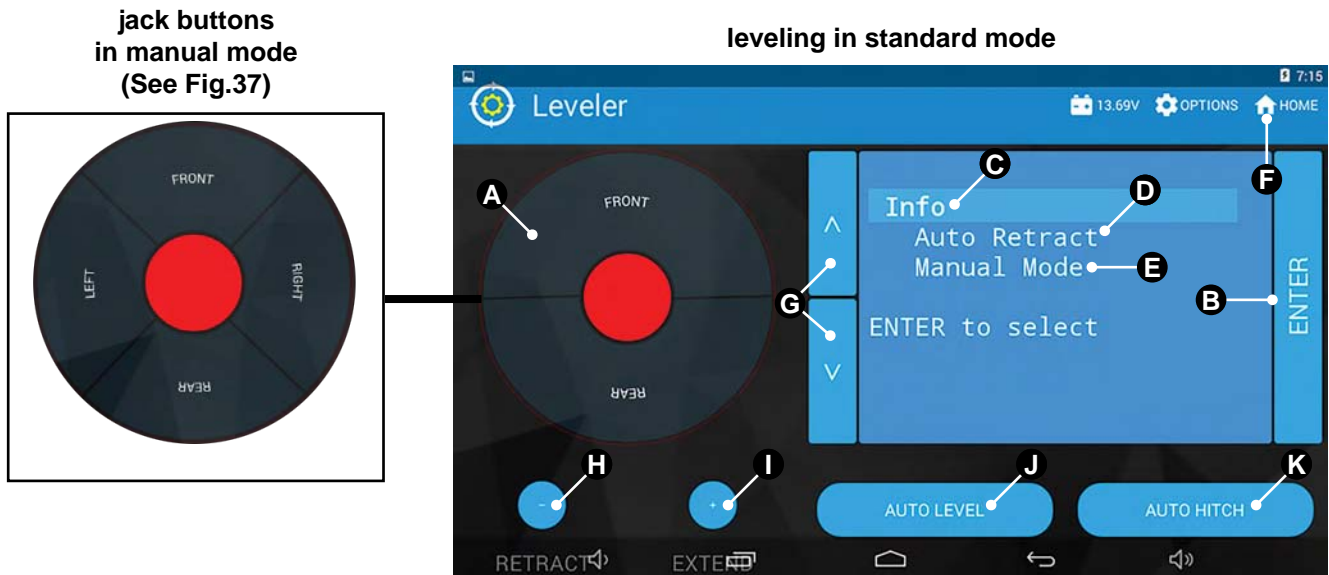
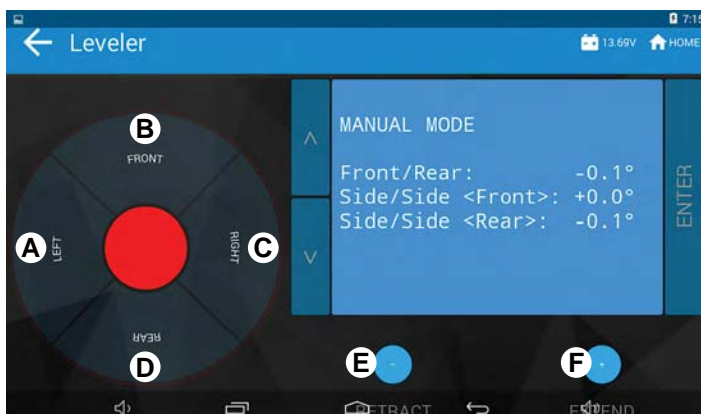

Fig.33
Fig.37
A	Jack Buttons - Select Front, Rear, Right and Left jacks to be operated depending on mode. Jacks available to be operated will be highlighted in blue. Only the Power Tongue Jack can be operated in Standard Mode (Fig.33). In Manual Mode (Fig.37), all jacks are available to be operated (no Power Tongue Jack operation available).
To reach Standard Mode (Fig.33) for leveling:
3. The screen will show the system menu (Fig.33) for Standard Mode. The Power Tongue Jack can be extended/retracted in Standard Mode. Front and rear jacks cannot be operated in Standard Mode.
To reach Manual Mode (Fig.37) for leveling:
1. While in Standard Mode (Fig.33), use the arrows (Fig.33G) to scroll to Manual Mode (Fig.33E). Hit "ENTER" (Fig.33B).